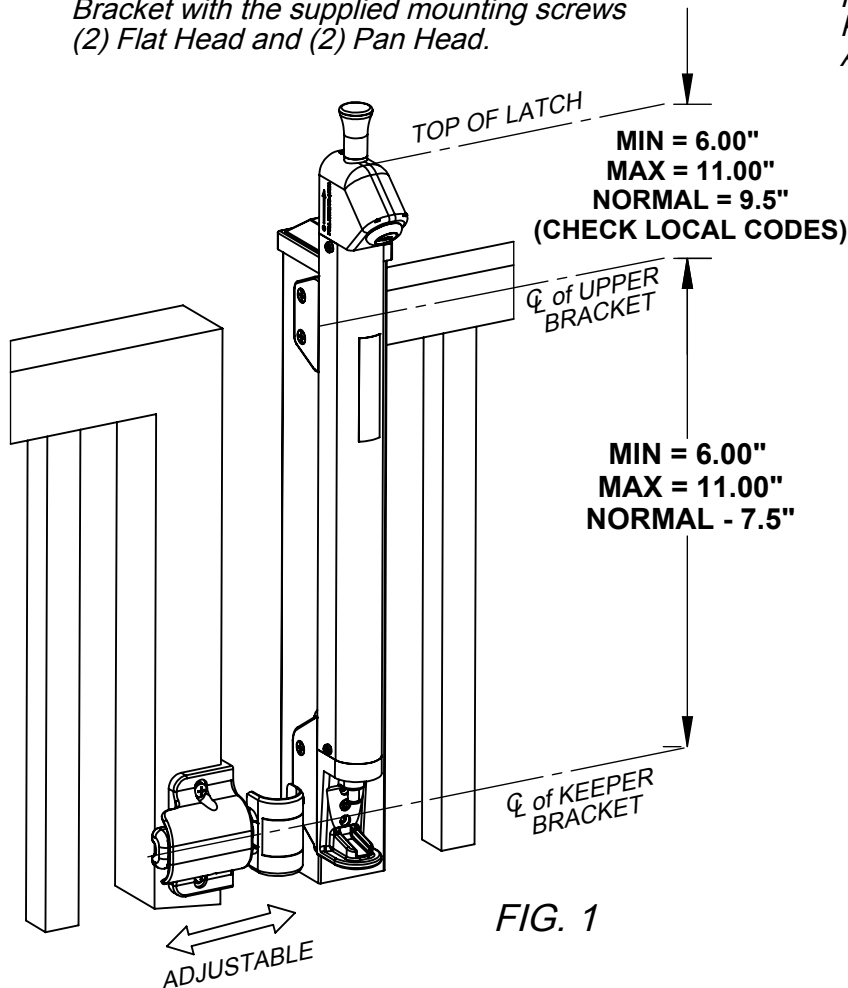

FIG. 1
1. Align the rear groove in the Main Latch Body with the tab in the Upper Bracket and slide the Latch into position. Using a measuring device, locate the Top of the Latch at the PROPER HEIGHT (Fig. 1) "REFER TO ALL LOCAL BUILDING CODES"